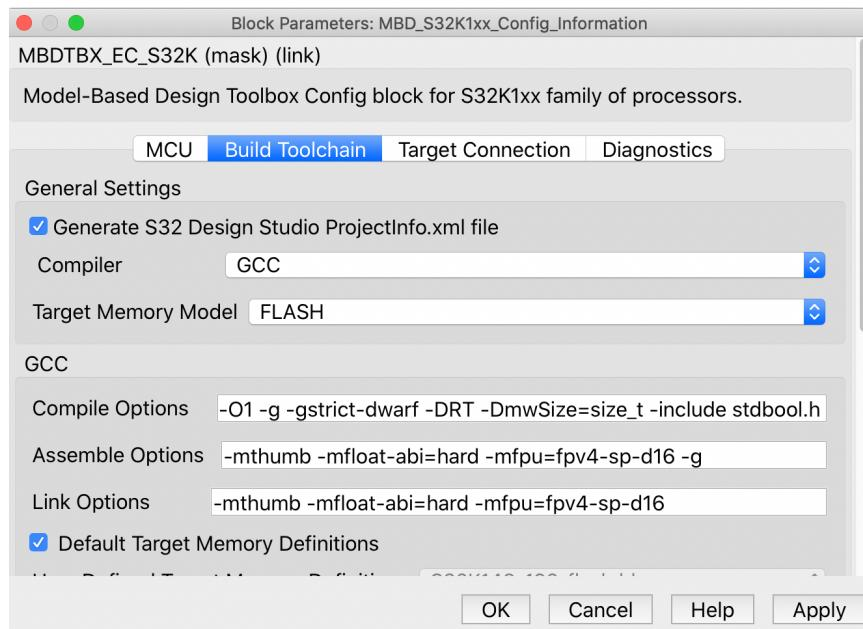

Figure 11: Block parameters: Model Based Design Toolbox.
2. In the MBD\_S32K1xx\_Config\_Information block, modify the compile options (Build Toolchain → MinGW64 → Compile Options) and append -include stdbool.h. Also add -DRT and -DmwSize=size\_t, see figure 11. This is necessary because the S-function builder uses booleans when it creates a .c file (in mux blocks, for example); mwSize is a Mathworks defined type; -DRT specifies that the S-function is being built with the Simulink Coder product for a realtime application using a fixed-step solver.